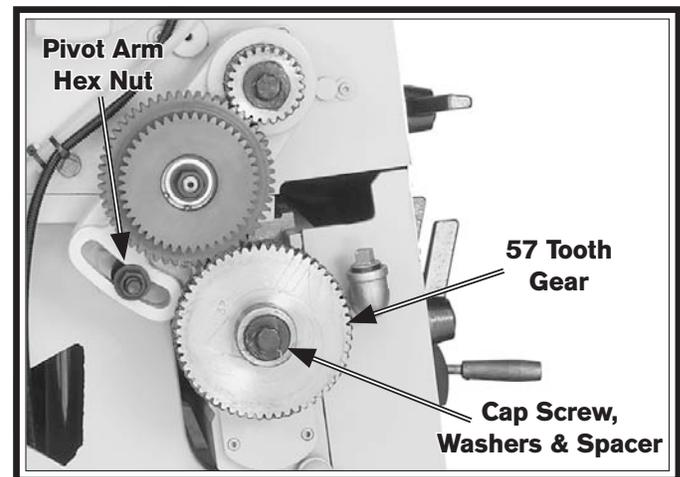

Figure 77. End gear components.
3. Remove the cap screw, lock washer, and flat washer from the 57 tooth end gear (see **Figure 77**).
- Loosen the pivot arm hex nut shown in **Figure 77**, then swing the pivot arm to the left so that the 44T/56T gears are away from the 57T gear. Hand tighten the hex nut to keep the arm in place.